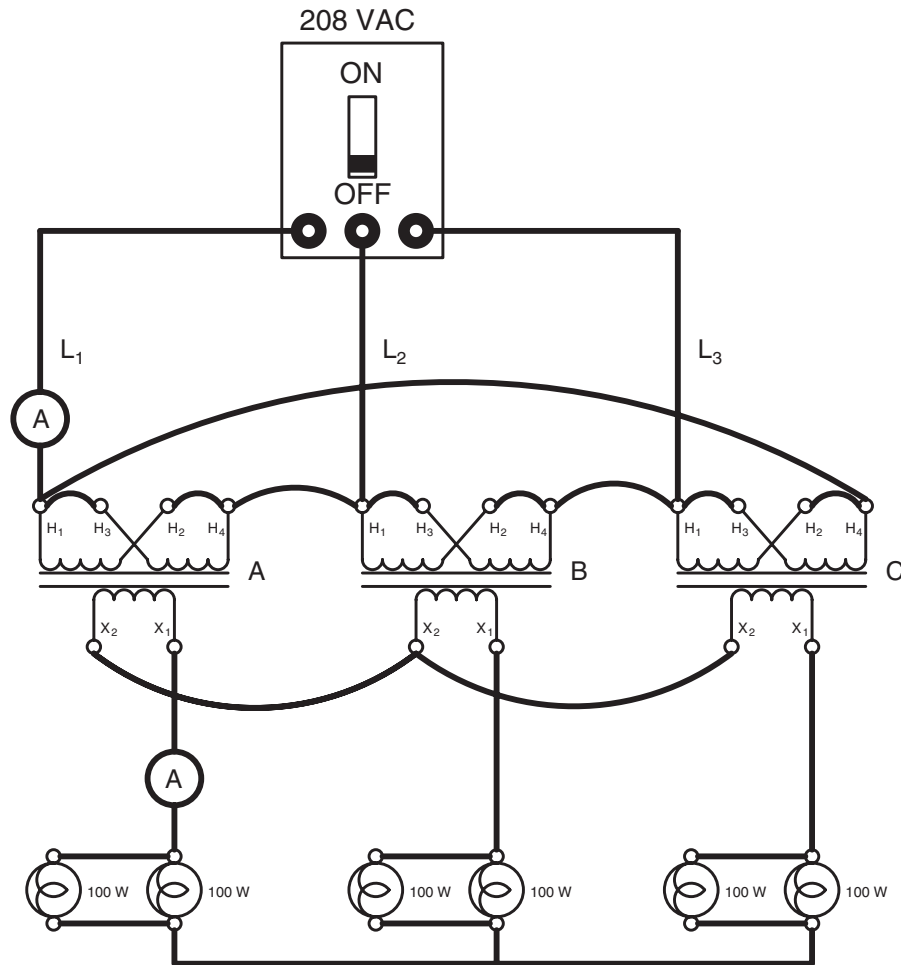

Figure 24-18 Adding load to the transformers.
13. Add an additional 100 watt lamp in parallel with each of the three existing loads, as shown in Figure 24-18.